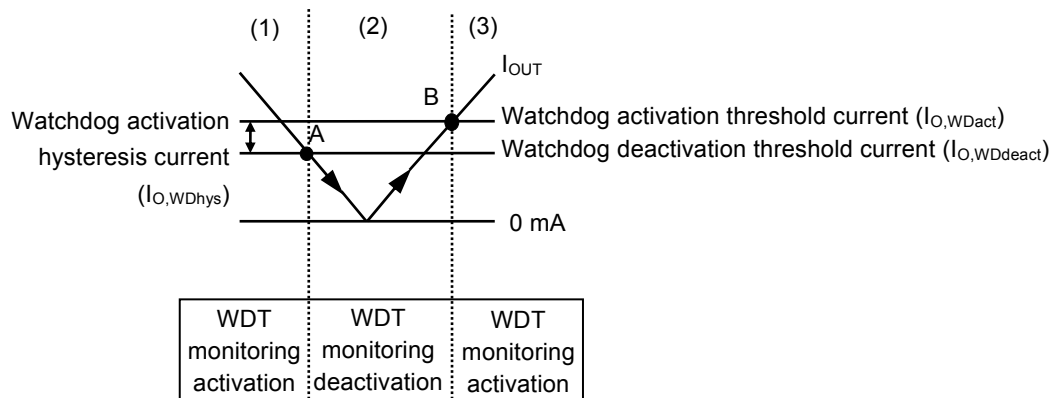

Figure 45 Autonomous Watchdog Operation Function
- (1) When I_{OUT} of the regulator is the watchdog activation threshold current ($I_{O,WDact}$) or more, the WADJ pin voltage (V_{WADJ}) is higher than the reference voltage (V_{ref}), and the output of the comparator (C1) is "H". At this time, the watchdog timer initiates the monitoring activation.
- (2) When I_{OUT} decreases to the watchdog deactivation threshold current ($I_{O,WDdeact}$) (point A in **Figure 45**) or less, V_{WADJ} decreases to V_{ref} or less and the output of C1 is "L". At this time, the watchdog timer deactivates the monitoring. Even if I_{OUT} increases, the watchdog timer continues the monitoring deactivation when I_{OUT} is within less than $I_{O,WDact}$.
- (3) If I_{OUT} further increases to $I_{O,WDact}$ (point B in **Figure 45**) or more, V_{WADJ} increases to V_{ref} or higher and the output of C1 is "H". And then, the watchdog timer initiates the monitoring activation.